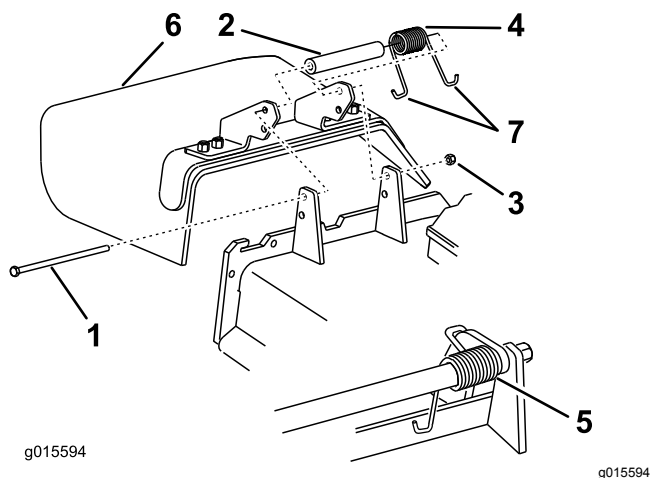

Figure 104
1. Remove the locknut, the bolt, the spring, and the spacer holding the deflector to the pivot brackets (Figure 104).
2. Remove the damaged or worn grass deflector (Figure 104).
Note: Ensure that one J-end of the spring is installed behind the deck edge before installing the bolt as shown in Figure 104.
6. Place one J-hook end of the spring around the grass deflector (Figure 104).